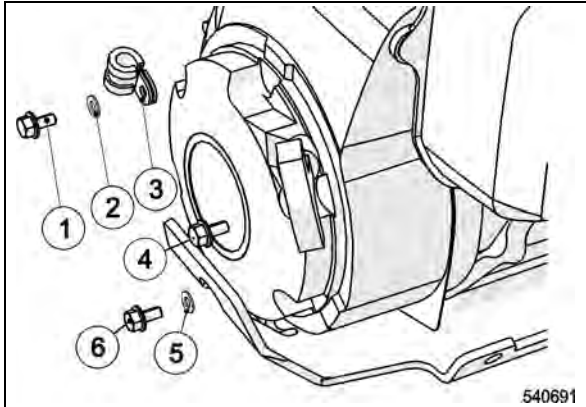

Fig. 62
- Unscrew the fastening screws (1), (4) and (6) (Fig. 62) and take off the recoil starter.